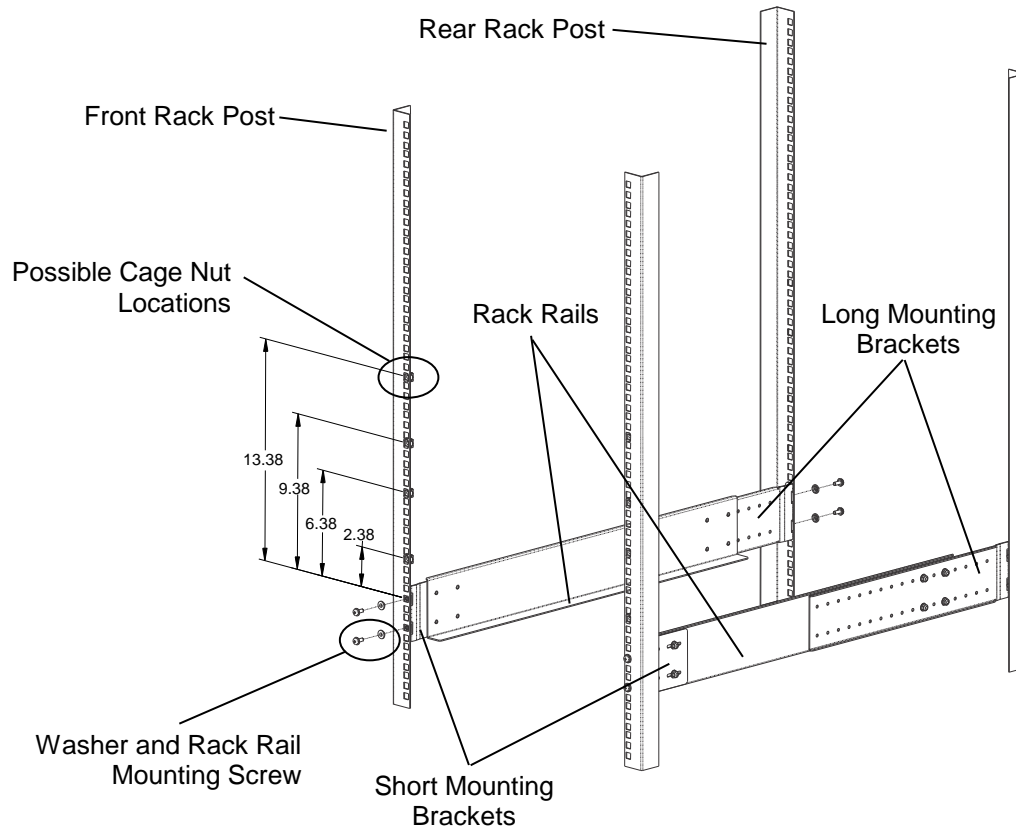

Figure 7-19 Rack Rail Assembly between the Front and Rear Rack Posts
3. If the old rack rail assemblies cannot be used as a template, position a rack rail assembly between the front and rear rack posts and use a tape measure to determine how far the brackets need to be moved so that the mounting holes of the brackets will be in contact with the inside edge of the rack posts. Note that the long bracket must be mounted at the rear of the rack. Refer to Figure 7-19.
- Position a rack rail assembly between the front and rear posts so that the brackets are touching the inside of the posts and the holes in its brackets align with the mounting positions chosen in Step 1. Make sure that the mounting bracket tabs are facing towards the outside of the rack and that the long bracket is at the rear of the rack. Refer to Figure 7-19.